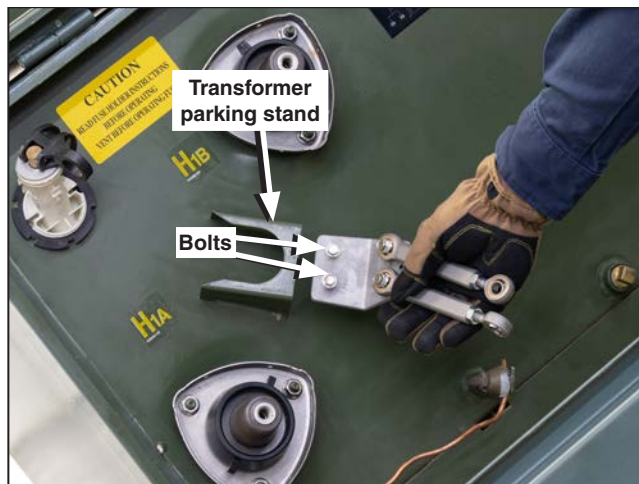
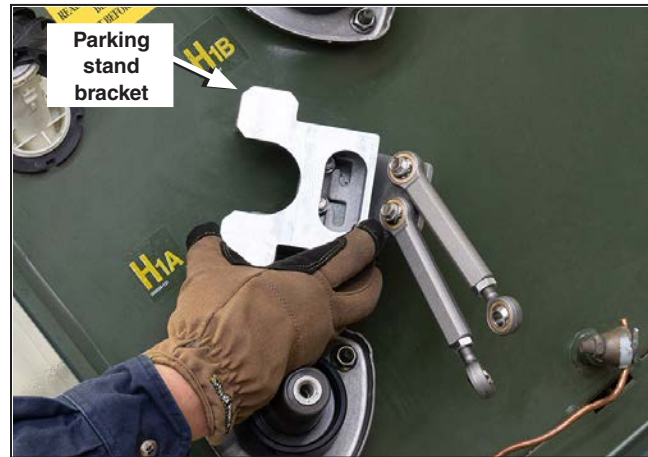

Figure 10. Slide the parking stand link bracket in from the bottom.
Figure 12. Pull down until the bolts hit the radius of the stand's opening.
**STEP 1.** Insert the parking stand link bracket into the original transformer parking stand, as shown in Figure 10 through Figure 12, by sliding it in from the bottom, up, and then back out until the bolts hit the radius of the stand's opening.